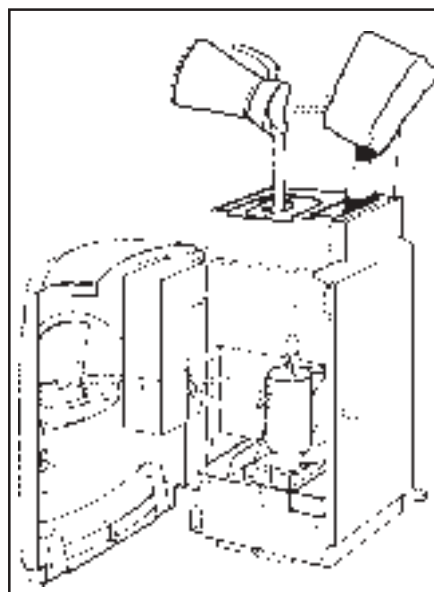

Fig. 5: Filling the machine with ground coffee/water
1. Fill the coffee container (see fig. 5) with freshly ground freshbrew coffee.